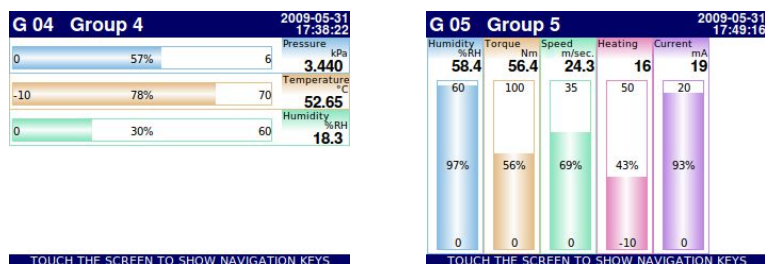

Fig. 6.10. Examples of **Horizontal** (for 3 channels) and **Vertical Bars** (for 5 channels)
- as horizontal bars **Fig. 6.10**
- as vertical bars **Fig. 6.10**